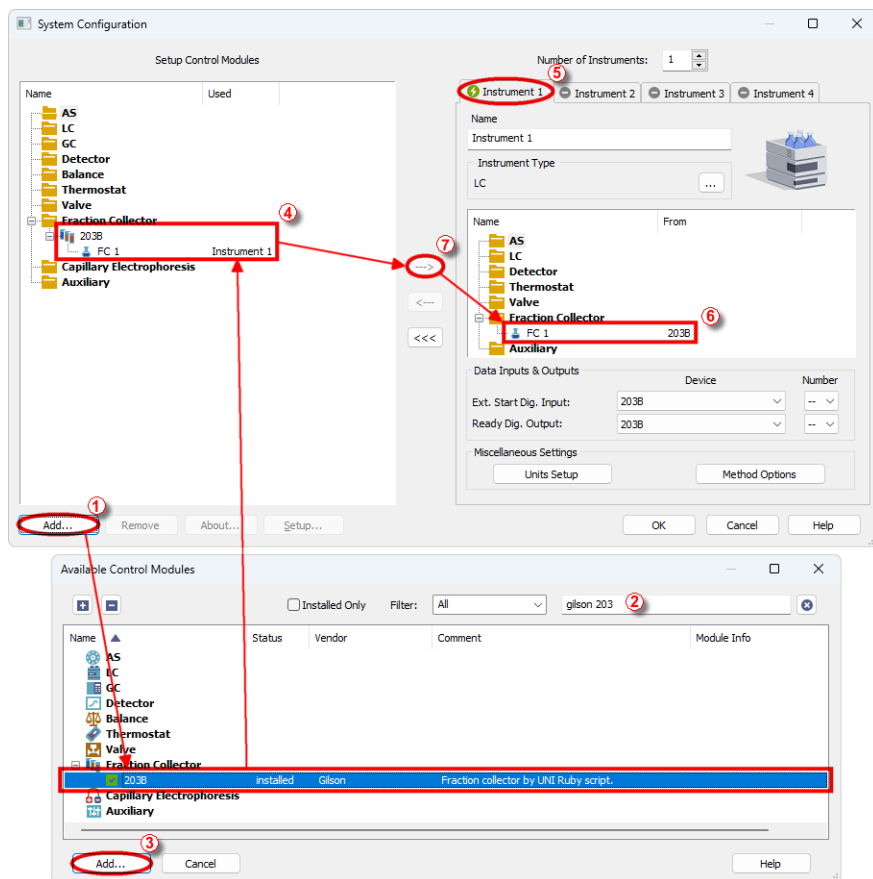

Fig. 2: How to Add UNI Ruby module
- Press the *Add* button (1 on Fig. 2 on pg. 4.) to invoke the *Available Control Modules* dialog.
- You can specify the search filter (2) to simplify the finding of the driver.
- Select the correct item and press the *Add* (3 on Fig. 2 on pg. 4.) button. Each device with already created UNI profile should have its own item